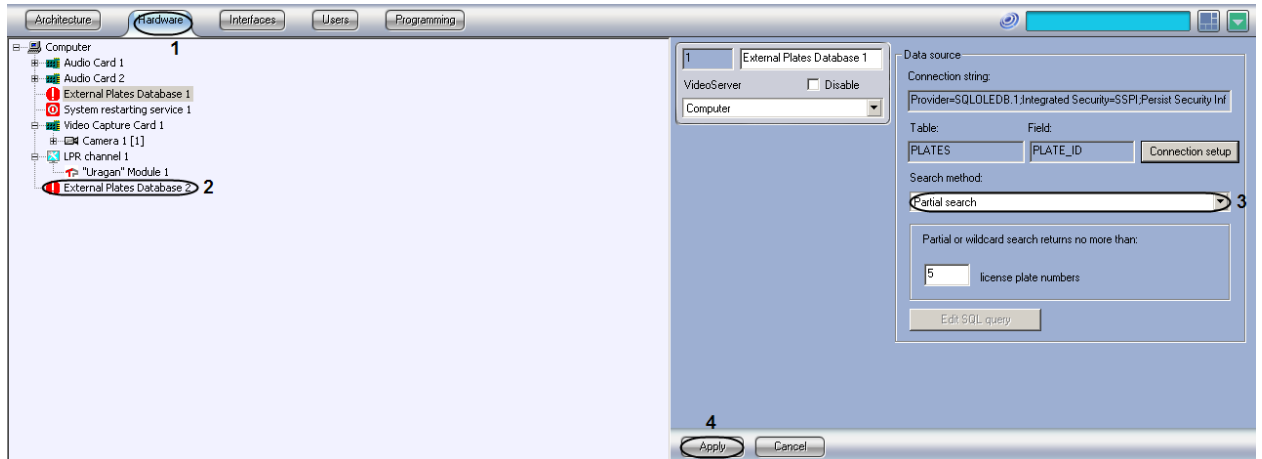

Fig. 7.6—10 Selecting the search method of the identified plates in the external DB
1. Go to Hardware tab of system settings dialog window (Fig. 7.6—10, 1).
2. Select the «External Plates Database» in the objects tree (Fig. 7.6—10, 2).
3. Select the required search method of the identified plates in the external DB (Table 7.6—2) from the list Search method (Fig. 7.6—10, 3).
4. Click «Apply» (Fig. 7.6—10, 4).